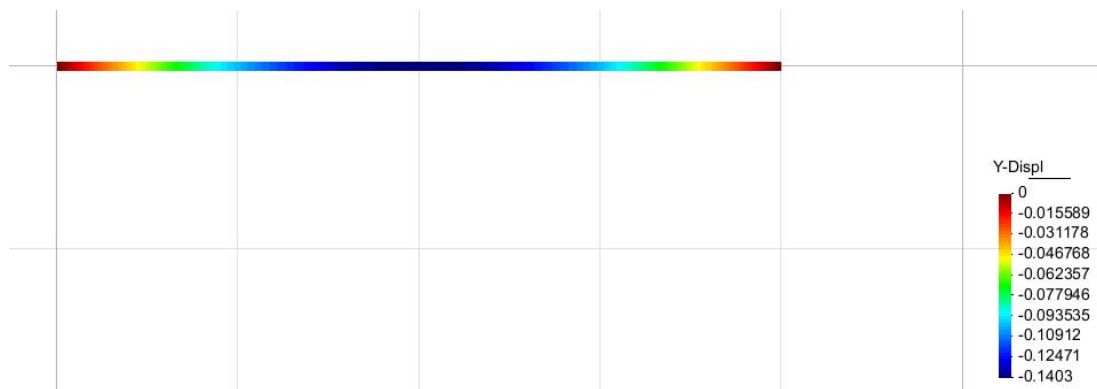
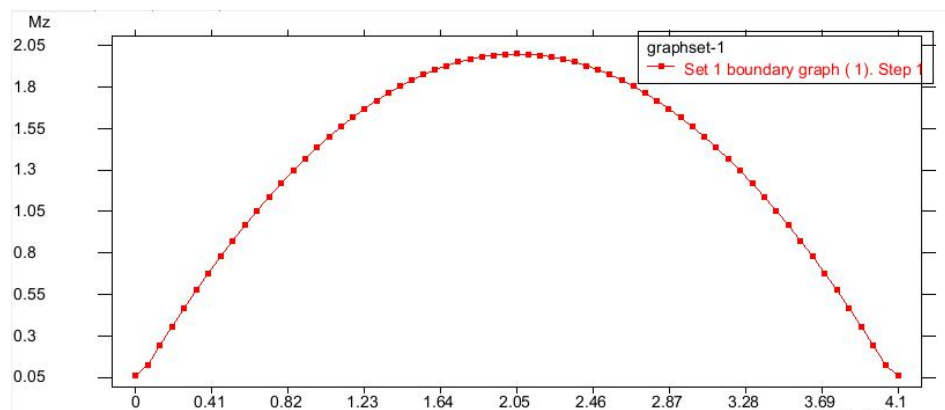
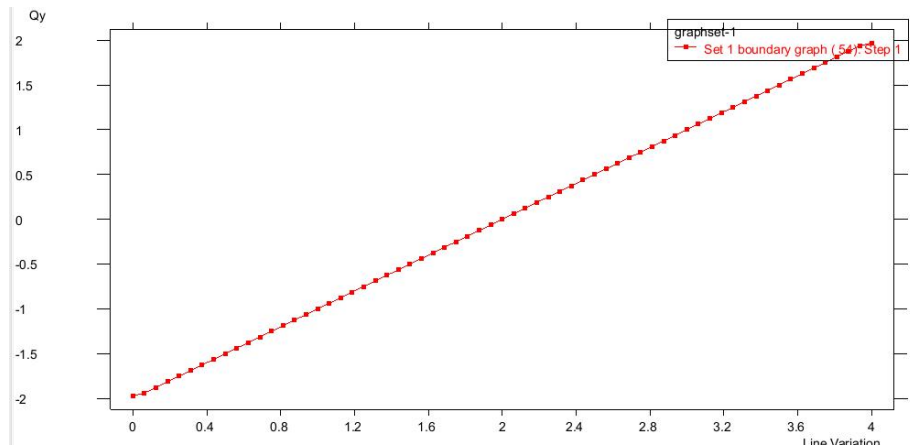

Figure 7. Displacement for $a=0.001$
Figure 8. Bending Moment for $a=0.001$
Figure 9. Shear Force for a=0.05
- For $a=0.001$ m, displacement, bending moment and shear force results are shown in Figure 7, Figure 8 and Figure 9.